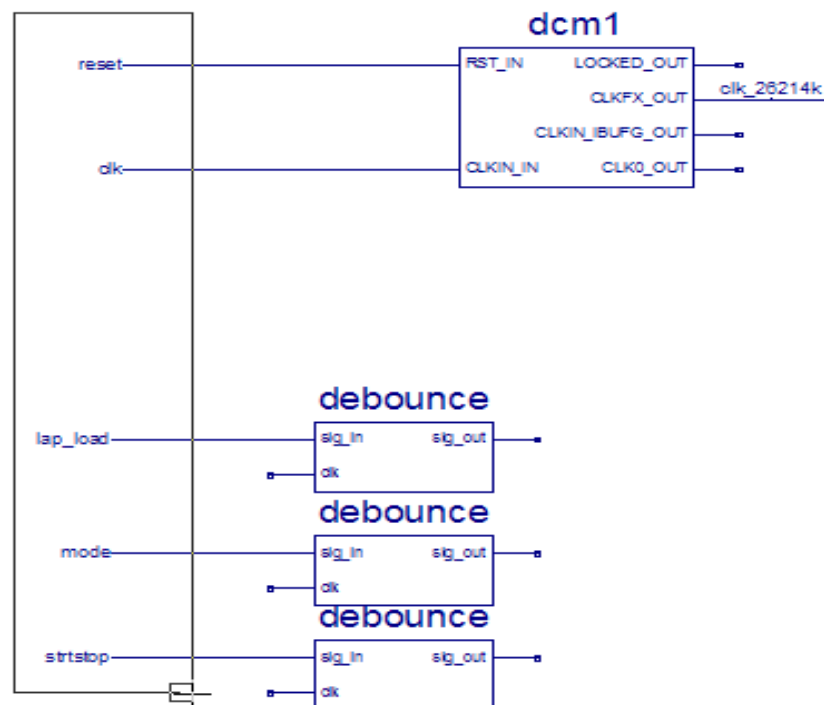

Figure 3-31: Adding I/O Markers to Labeled Nets
3. Place the name on the leftmost end of the net, as illustrated in Figure 3-31.
6. Click and drag a box around the name of the five labeled nets, as illustrated in Figure 3-31, to place an input port on each net.